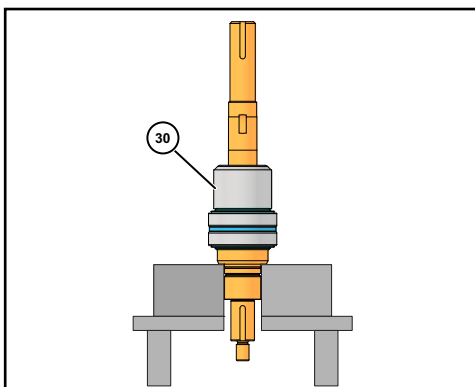

Figure 53 - Install Bearing Spacer
9. Install the bearing spacer (Figure 53, item 30).